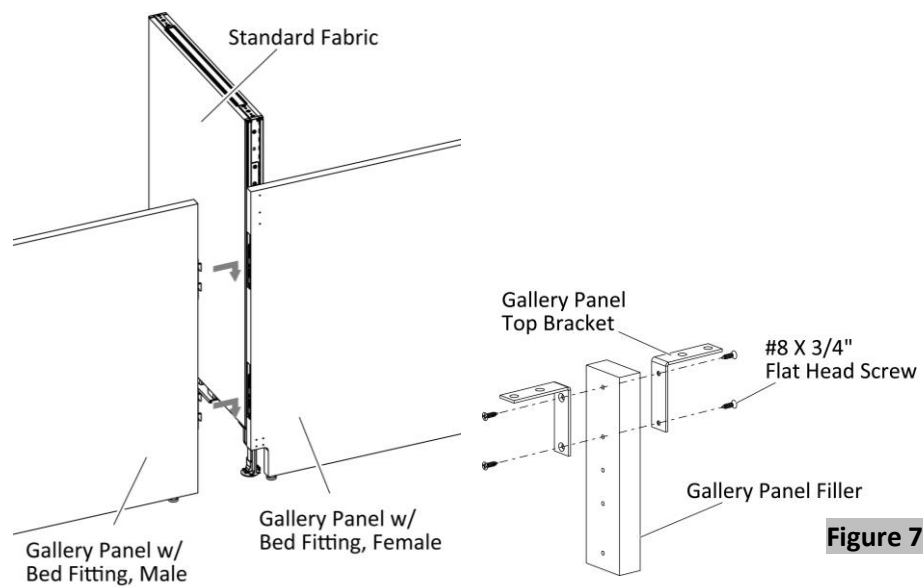

Figure 6
11. Attach the gallery panel with male bed fitting brackets by inserting the hooks into the female bed fitting brackets and releasing the gallery panel down to engage the lock, (Figure 6).